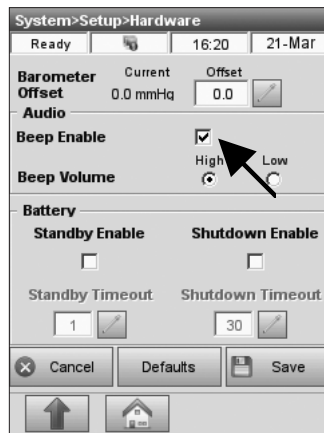

Fig. 3-83 Enable Beep
3. Select **<Beep Enable>** (Fig. 3-83).